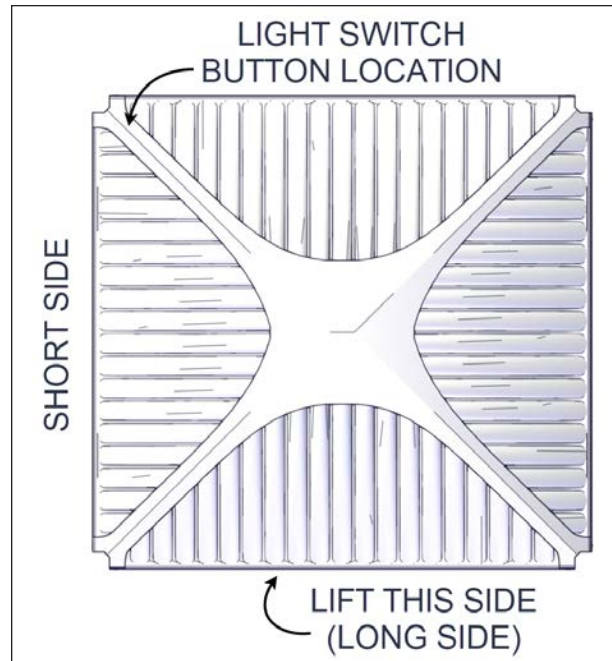
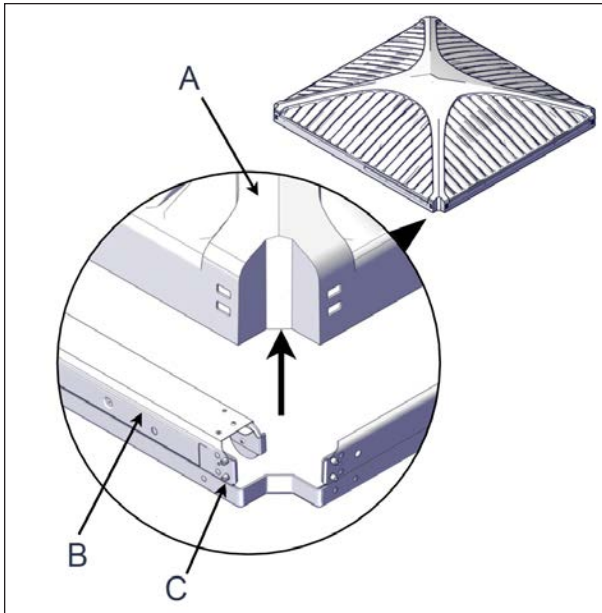

FIGURE 50: SHORT AND LONG SIDES OF THE COVER
FIGURE 51: OUTER SHELL LIFTING
2. Locate the light switch button see Figure 50.
3. Lift and split the long side of the outer shell opposite to the light switch button for the next steps. To split the cover into two parts, you must remove the outer shell by pushing inwards on the steel frame of the inner shell see Figure 50 and Figure 51. This will clear the metal inserts from the outer shell for better leverage. Do not lift more than 16" (40 cm).